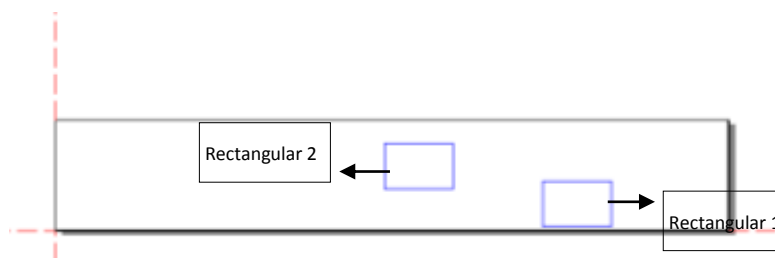

Fig.4-7
- a) The machine cut rectangular 1 and 2 in the first breadth, as shown in Fig.4-7: